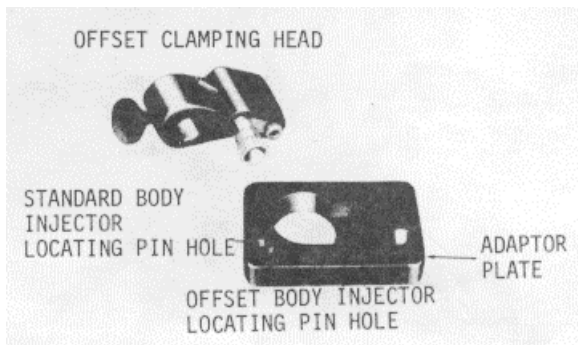
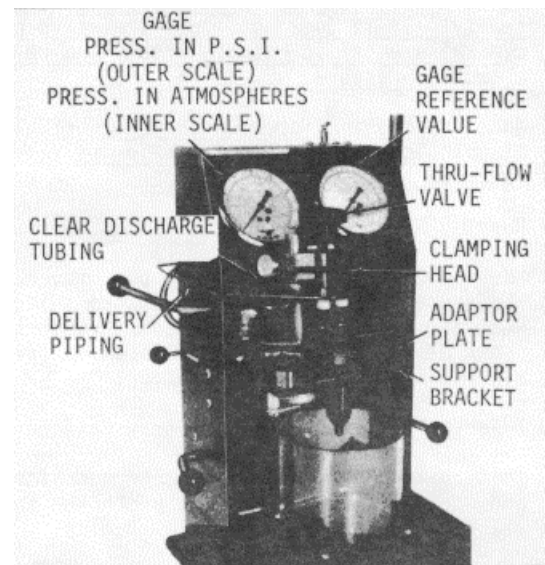

Fig. 11 Injector Tester J 23010 Clamping Heads Injector to eliminate the cause of the misaligned parts.
Fig. 12 Injector Installed in Tester J 23010 VW Clamping Head
- (1) Select the proper clamping head (Fig. 11). Position it on the clamping post and tighten the thumb screw into the lower detent position (Fig. 12).
- (2) Connect the test oil delivery piping into the clamping head.
- (3) Connect the test oil clean discharge tubing onto the pipe on the clamping head.
- (4) Locate the adapter plate on top of the support bracket by positioning the 3/8" diameter hole at the far right of the adapter plate onto the 3/8" diameter dowel pin. This allows the adapter plate to swing out for mounting the fuel injector.
- (5) Mount the injector through the large hole and insert the injector pin in the proper locating pin hole (Fig. 11).
- (6) Swing the mounted injector and adapter plate inward until they contact the stop pin at the rear of the support bracket.